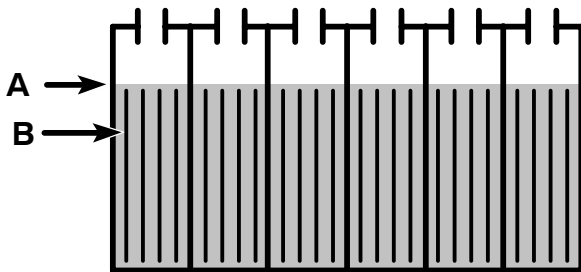

FIG. 28
The electrolyte level (A) should slightly cover the battery plates (B). Add distilled water as needed. DO NOT OVERFILL, the fluid may expand and overflow while charging. Replace cell caps before charging (Figure 28).